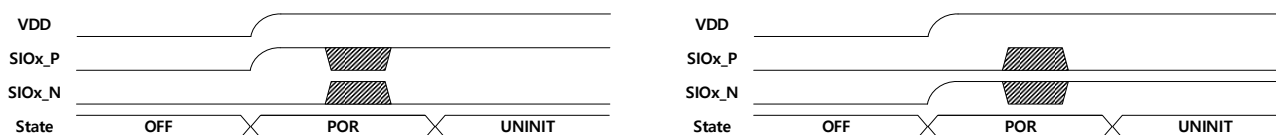

Figure 4. Startup behavior of the ID804. The example shows the MCU (left) and EOL (right) modes. After a RESET command, the device starts in the PoR state.
When the supply voltage is connected and VDD increases above the V_{POR} level, or the RESET command is received, the ID804 undergoes the following startup sequence (Figure 4. Startup behavior of the ID804. The example shows the MCU (left) and EOL (right) modes. After a RESET command, the device starts in the PoR state.)
1. All registers are initialized to their default value (PoR in Figure 4).
3. The voltage levels at each SIOx pin are checked to detect the communication modes (shaded signals in Figure 4).
4. ID804 enters the UNINIT state and is now ready to receive the first command (UNINIT in Figure 4).